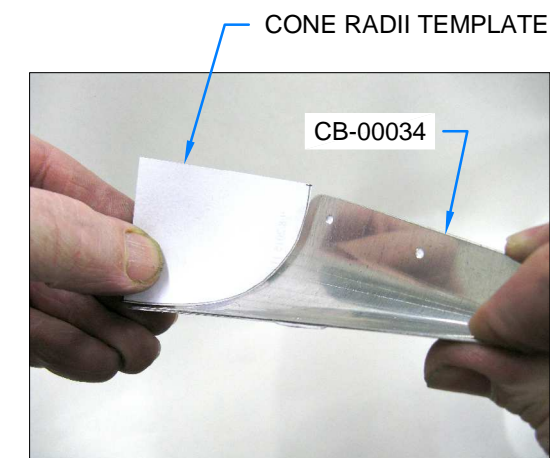

FIGURE 3: CHECK CONE SHAPE
Step 9: Use the radii template to check the right air ramp cone for proper shape as shown in Figure 3. Place the edge of the template along the forward edge of the cone and align the template lines with the upper and inboard edges of the cone.